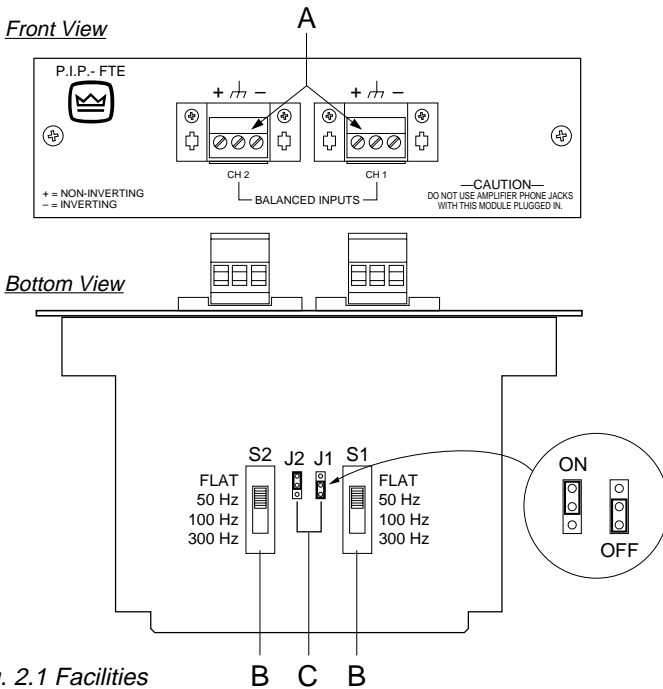

Fig. 2.1 Facilities
With these special quick-connect barrier-block connectors (Figure 2.1), it's quick and easy to attach each input cable with just three screws. Once the cable is attached, the connector can be quickly unplugged and, if desired, moved to a different amplifier.
1. Adjust the constant-directivity equalization jumper of each channel to be either "ON" or "OFF" (see Figure 2.1). Figure 4.1 shows the frequency response through the P.I.P.-FTE when this filter is on.